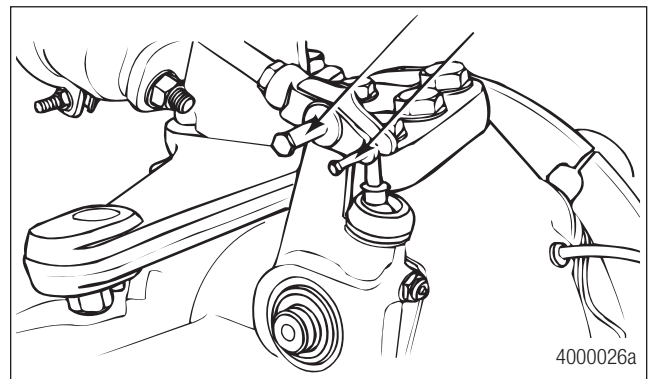

Figure 4.16
3. Remove the pins that engage the push rod yoke and the slack adjuster. Figure 4.16.